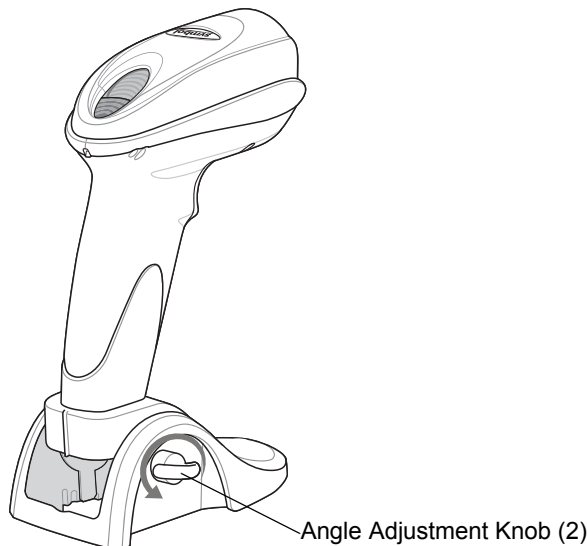

Figure 1-5 *Adjust the Scanner for Cable Installation*
1. Turn both angle adjustment knobs left to loosen the scanner in the base. See Figure 1-5.